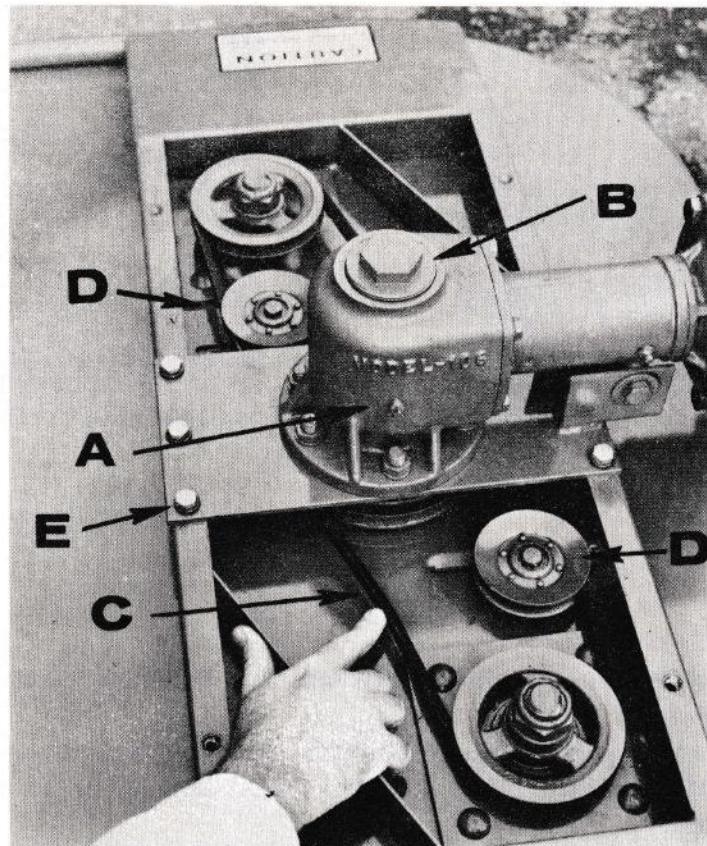

Figure 5
Check the gear housing oil level every four hours of operation by removing the oil level plug shown at A, Fig. 5. If oil runs out, the oil level is alright, if not, oil must be added until the proper oil level is obtained.
To add oil, remove the oil filler plug shown at B, Fig. 5, and pour through the hole until oil begins to run out the oil level hole. Replace both plugs before operating the mower.
When the belts are in proper adjustment, by applying moderate pressure at its mid-point shown at C, Fig. 5, you should be able to deflect the belt about 1/2"
- (A) Remove both belt covers.
- (B) Loosen both idler pulleys shown at D, Fig. 5.
- (C) Remove belts from around blade spindle and idler pulleys.
- (D) Remove the five bolts holding the drive mounting plate to the deck shown at E, Fig. 5. Remove the drive and belts.
- (E) Replace belts by reversing the above procedure and adjust the belts. (See Belt Adjustment)